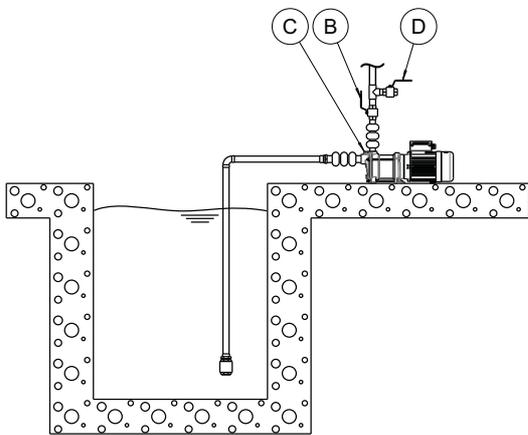

Figure 8: Example: installation of a pump in suction-operation
- Gradually open the discharge shut-off valve (B);
- Open the discharge shut-off valve (B);
- Remove the fill plug (C);
- Put a funnel into the port (C) and completely fill the pump with the liquid to be pumped;
- Vent the pump on discharge side for example via a venting valve (D) on discharge side (see Figure 8 Example: installation of a pump in suction-operation);
- Close the discharge shut-off valve (B);
- Close the fill plug (C).